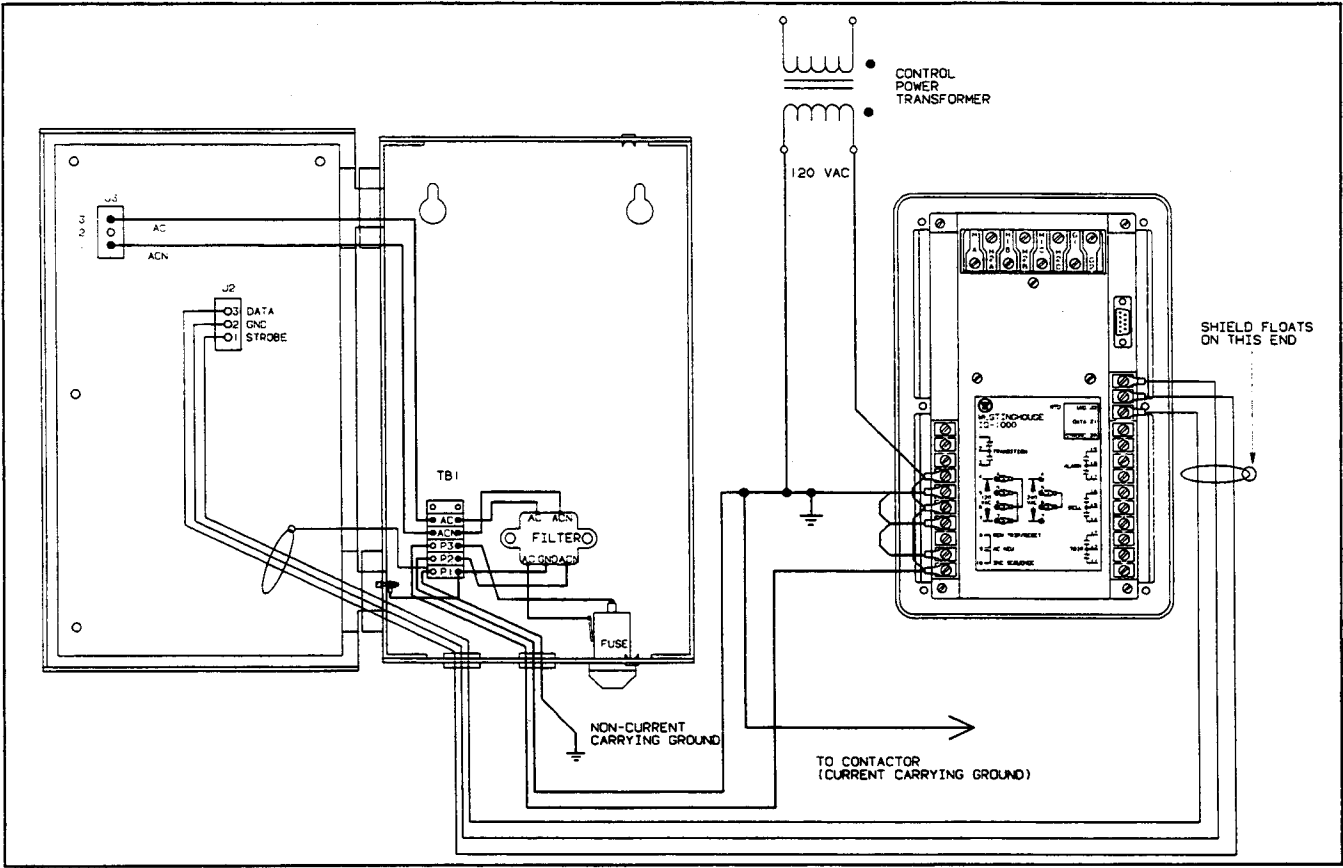

Figure 5.8 — IQ-1000 to RTD Module Wiring
This cable should be a shielded, 3 conductor cable using the three conductors to connect the IQ-1000 to the RTD module and the shield grounded to the starter ground. (See Figure 5.8) The wire should be at least AWG No. 14 stranded copper.
- A jumper, or pair of jumpers, connect between terminals 4, 5, 6, and 7, depending on whether the AC supply is either 120 or 240 VAC. The correct jumper wiring configuration is shown on the wiring label attached to the rear of the chassis. This is also shown in Figure 5.8.